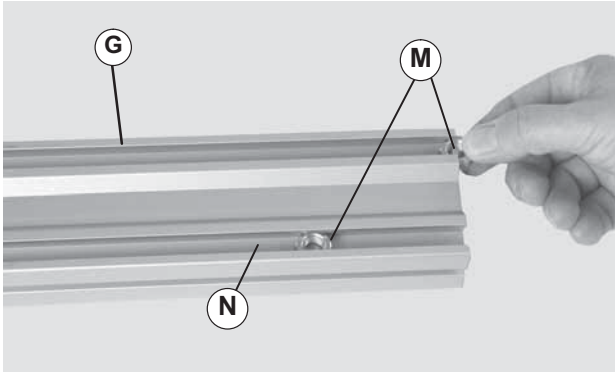

Figure 3
3. Install one (1) hex nut (Figure 3, item M) into each crossmember (G) t-slot (N).